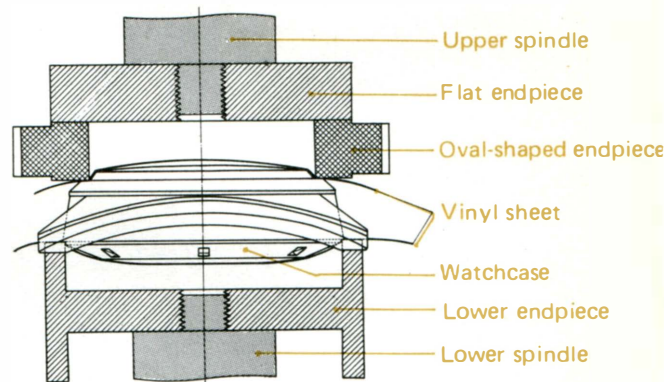

Fig. 4
(5) Push in the oval bezel.
- Use the Citizen Multi-Purpose Watchcase Opener Set and Citizen Oval Bezel Setter (Fig. 4).